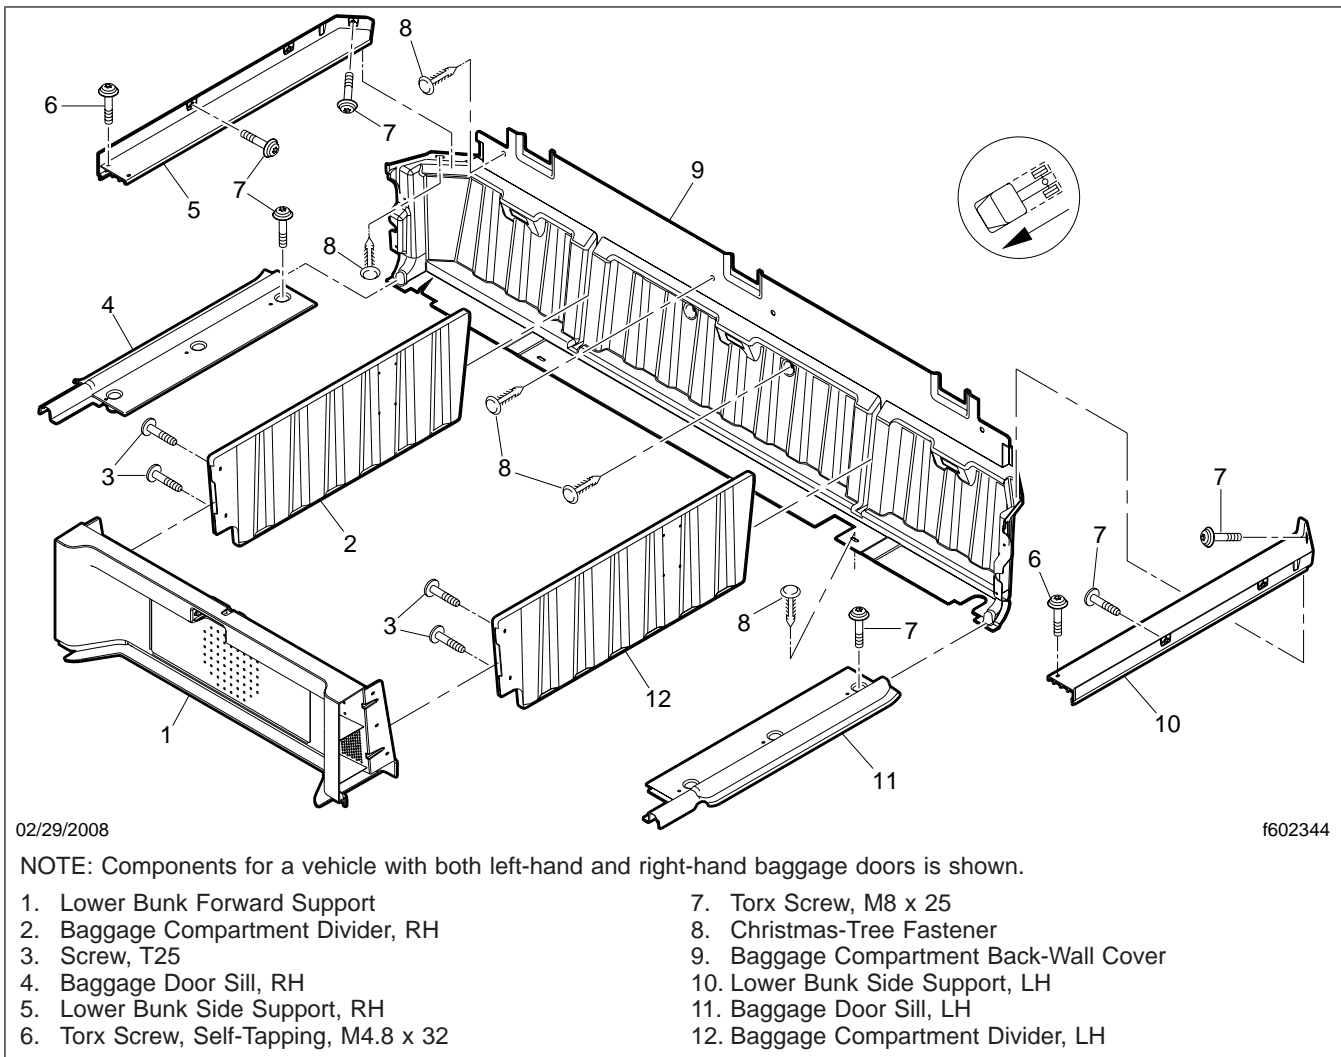

Fig. 2, Baggage Compartment Panels and Lower Bunk Support
- 2.2 Remove the two dividers in the baggage compartment; see Fig. 2. The forward ends of the dividers are attached to the bunk forward support with two screws.